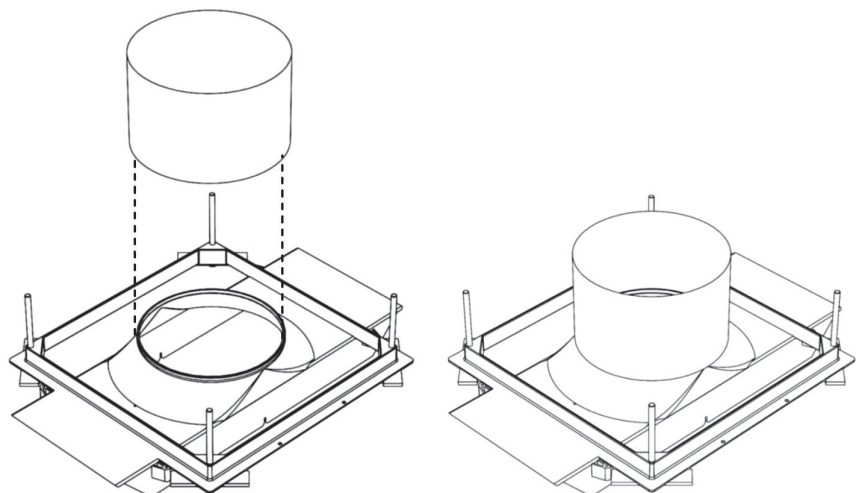

Fig 10: Fit the black plastic duct onto the brace assembly ensuring a tight, sealed fit.
- Turn the assembly over and add the black plastic duct work to the top of the assembly with the notch upwards (Fig 10). The notch is shown circled below.